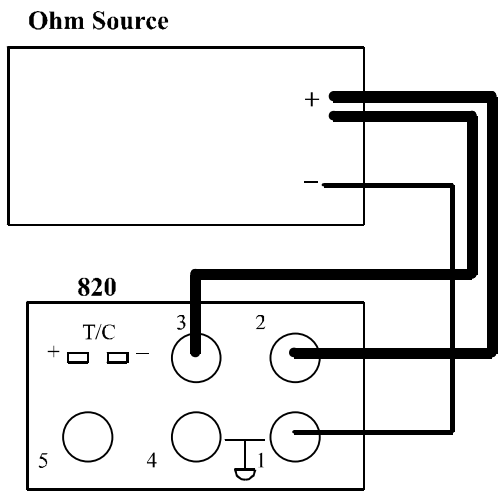

FIGURE 12
3. Hi Calibration: Connect an Ohms Source (Set to 1000Ω) to terminals 1, 2 and 3 on the 820 (See figure 12). For maximum accuracy, the three leads should be of equal length. Press *STORE*; make sure you hear the beep, then press *SOURCE/READ*.